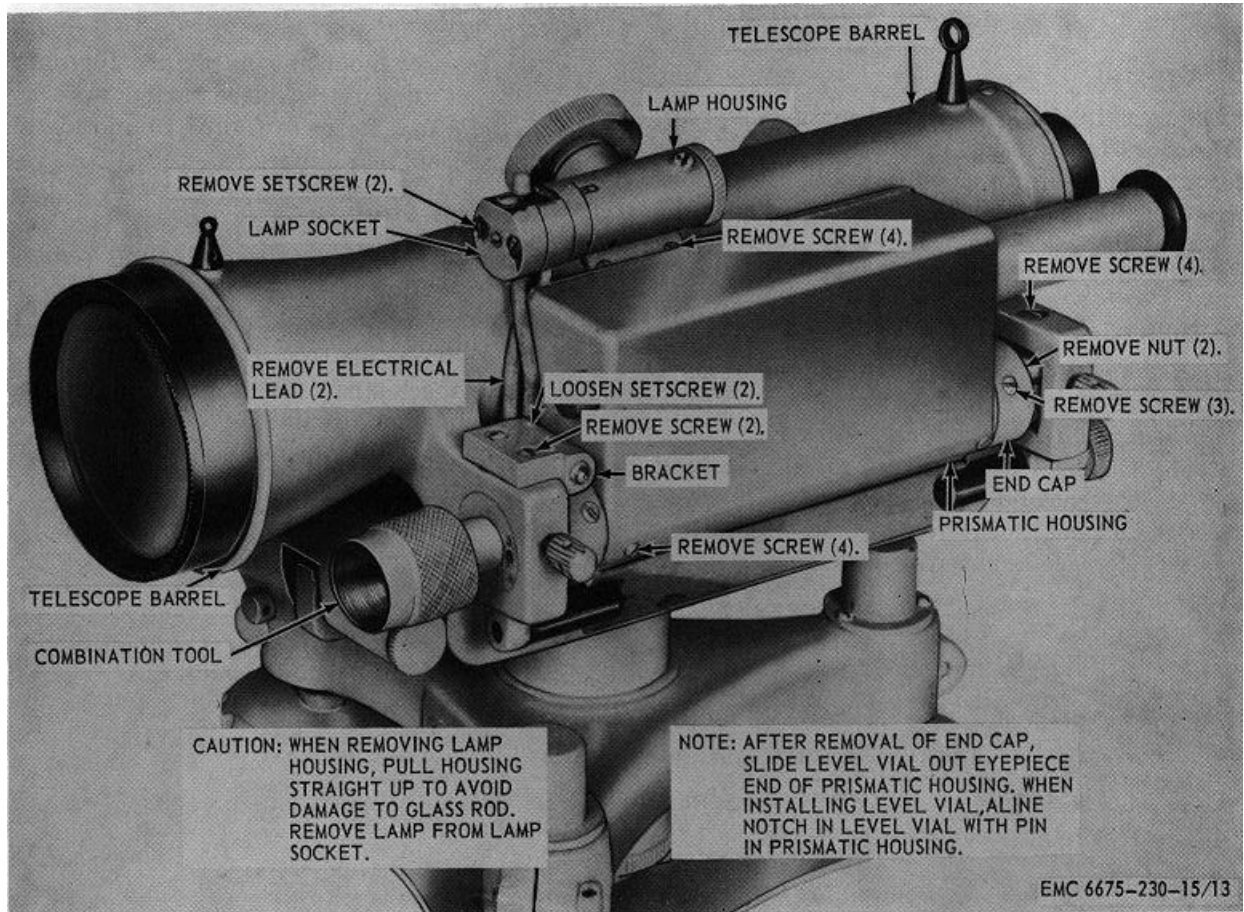

Figure 13. Level vial and illumination assembly, removal and installation.
- (2) Pull lamp socket (fig. 13) from lamp housing and remove and install lamp.
- (1) Refer to figure 13 and install lamp.
- (1) Refer to figure 13 and remove the telescope barrel lamp housing.
- (2) Lamp removal is the same as that described in paragraph 42.
- (1) Refer to paragraph 42 and install the lamp.
- (2) Refer to figure 13 and install the telescope barrel lamp housing.
- (2) Install combination tool (fig. 13) and remove level vial.